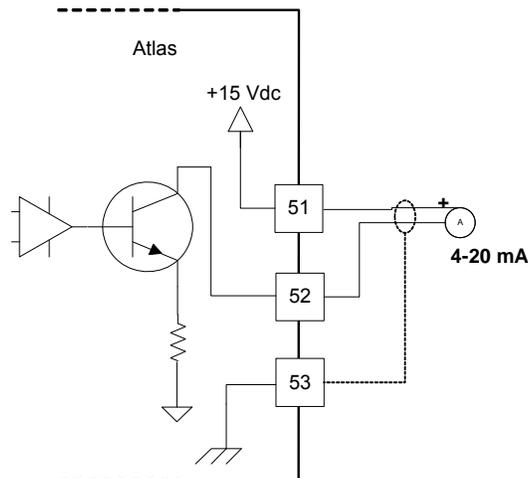

Figure 5-7. Analog Output Interface to the Analog Combo Board (wiring example)
- Refer to Figure 5-7 for analog output wiring.